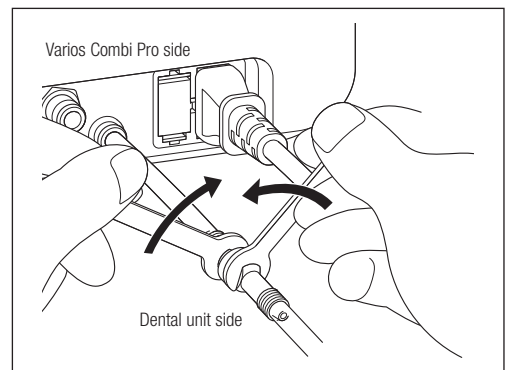

Fig. 56
- 3) Use two spanners (5x8) and turn in the directions shown below in Fig. 56.